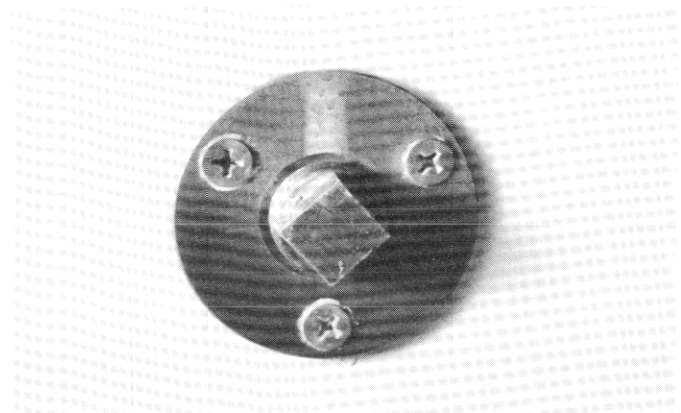

Figure 22
1. Remove the hull drain plug. The plug is in the outside of the transom below the gimbal. See figure 22.